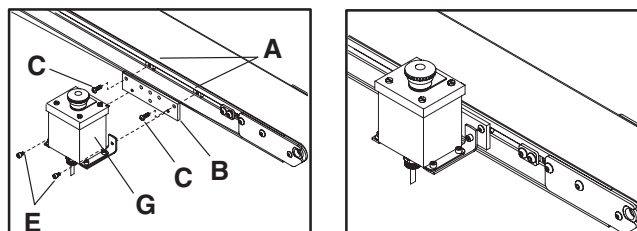

Figure 3
2. Attach the Pushbutton Box assembly (Figure 3, item G) to two T-bars (A) with screws (C).